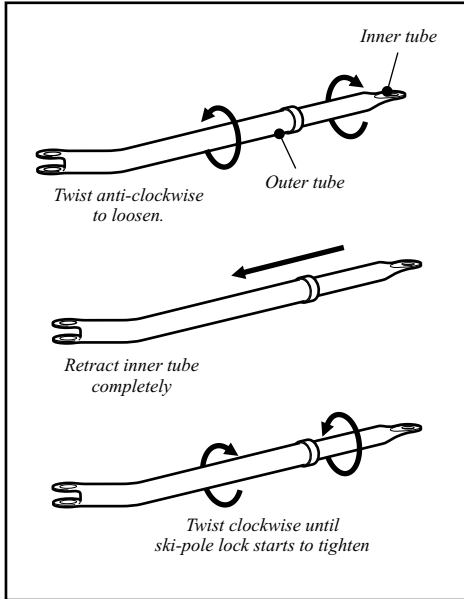

Figure 17 Prepare Connecting Arm For Installation
13. Prepare the connecting arm for installation, by moving the inner tube to the retracted position (see Fig. 17). Turn the inner tube clockwise